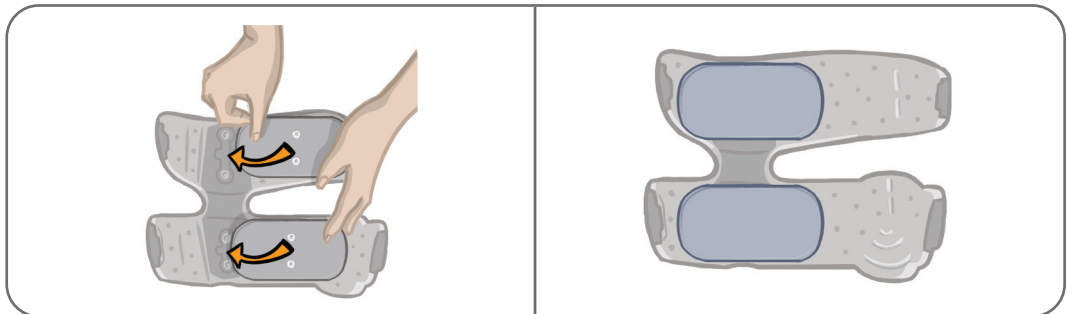

Figure 6-10: Aligning and Attaching the Thigh Cloth Electrodes
5. Align the snaps on the Thigh Cloth Electrodes to the plug holes on the Thigh Cuff. See Figure 6-10.
6. Press firmly to snap the small Thigh Cloth Electrode to the Thigh Cuff bottom panel. Press firmly to snap the large Thigh Cloth Electrode to the Thigh Cuff top panel. See Figure 6-10.